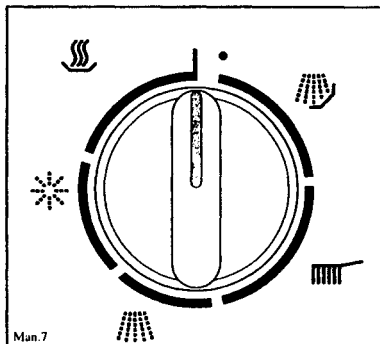

Fig. 17
The dishwasher stops automatically at the "end of programme" position, as in Fig. 17. Depress the ON/OFF Pushbutton ① to switch the dishwasher off.
Switch the machine off by pressing the ON/OFF Pushbutton . Turn the programme switch knob clockwise on the "end of programme" position, as in Fig. 17.